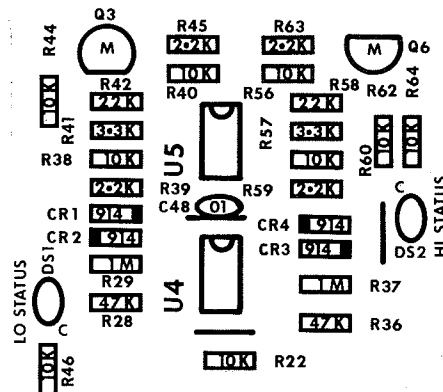

FIGURE 3-13 HIGH LOW STATUS LAMPS
3.5.2 High and Low Status (Figure 3-13)